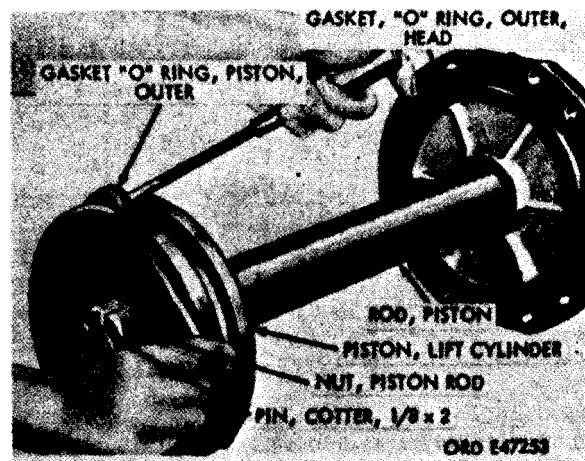

Figure 466. Removing O-ring gasket from lift cylinder piston
(b) Insert screwdriver or similar tapered tool under piston outer O-ring gasket (L) and remove gasket from lift cylinder piston (fig. 466).
(c) Remove cotter pin (fig. 466) and piston rod nut (M) from stub end of piston rod (V). Slide lift cylinder piston (K) from rod.